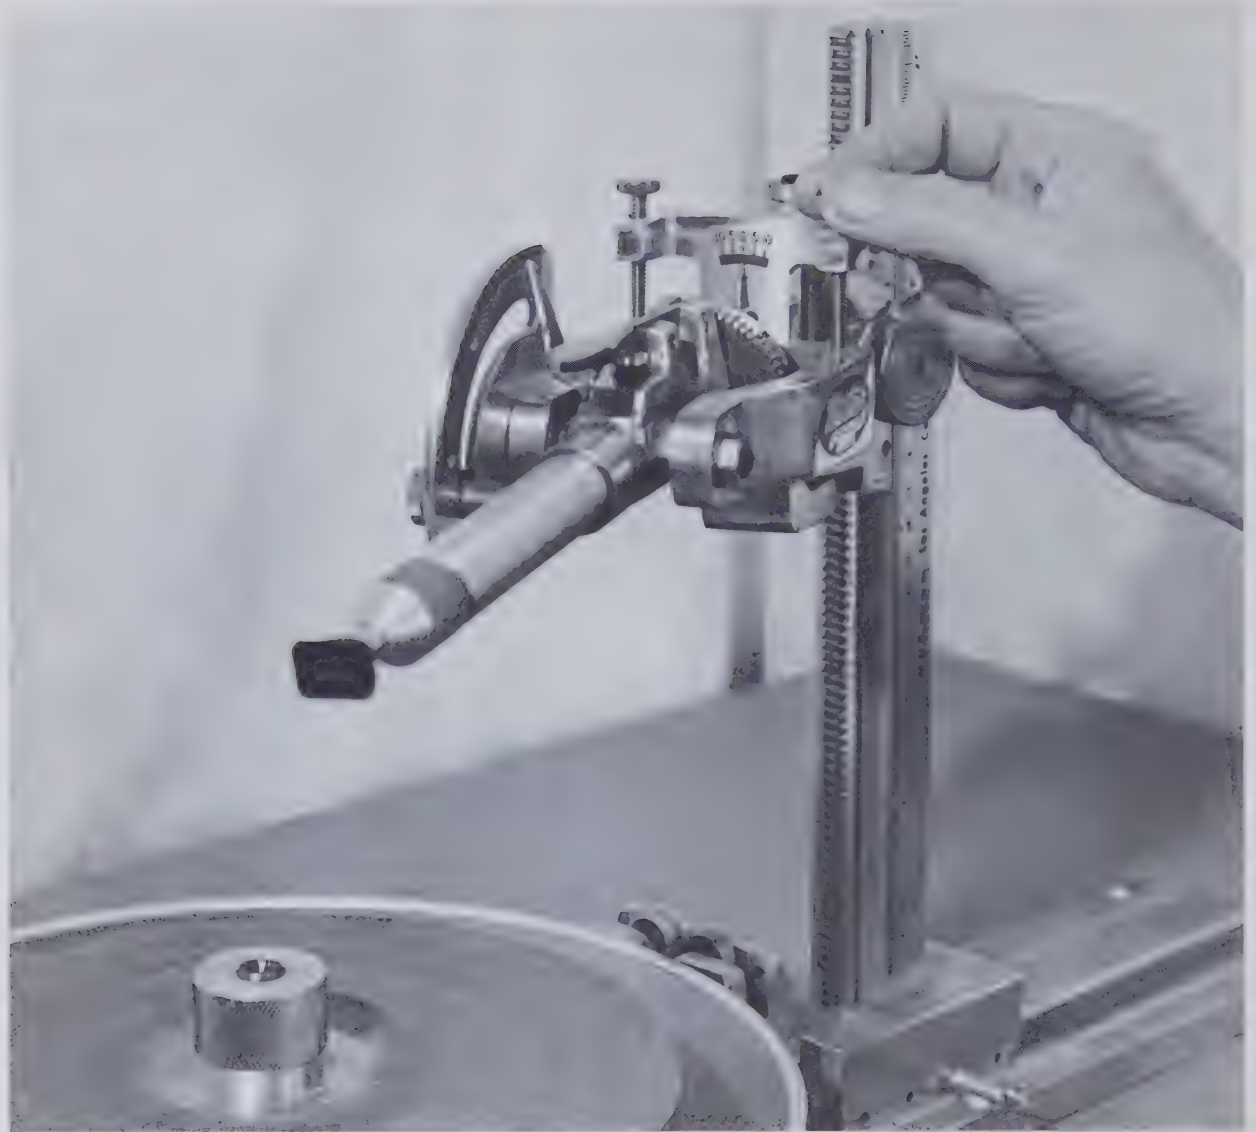

Fig. 109 Using the splitter adjustment on the M.D.R. facet head. The yoke holding the dop arm assembly can be tilted from side to side to "split" settings of
**Setting Splitters.** Many gem cuts, such as ovals, hearts, pears, marquises, etc., require settings which fall somewhere between those available on ordinary gear wheels. To get these "split" settings, makers of faceting equipment provide some means for slightly tilting the dop arm assembly, or the yoke holding this assembly. Figure 109 shows how the M.D.R. splitter is worked, while Figure 110 shows the